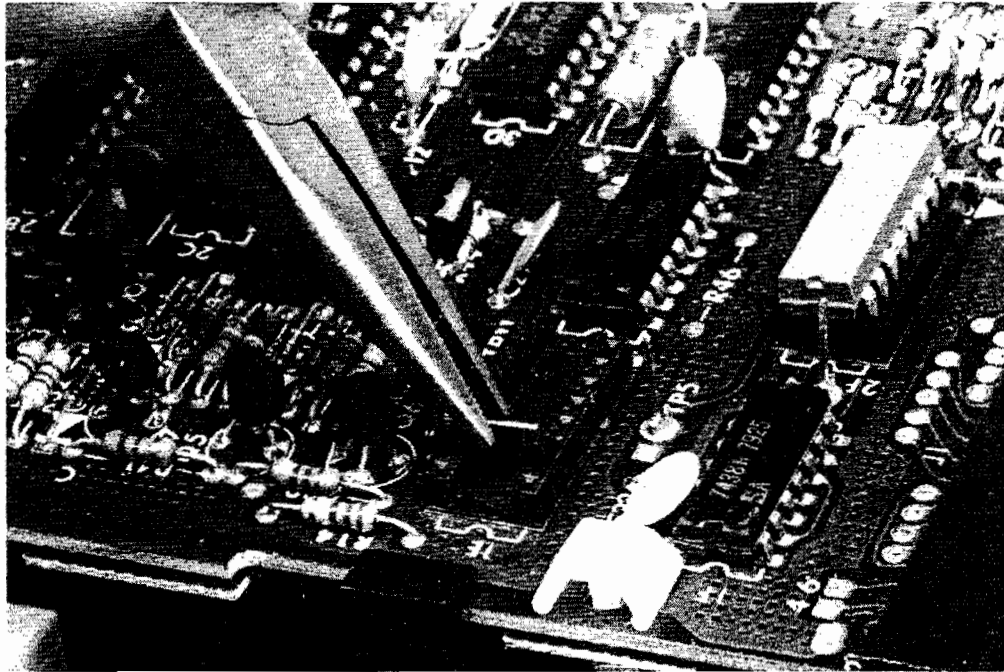

Figure 4-4. Checking Jumpers on the Drive PCA
- b. Check the jumpers on the drive PCA's to be sure they are set properly. (See Figure 4-4.) The jumpers should be placed in the socket as shown by the O's below. (A jumper in position 1 will not affect operation.) Turn off the disc drive before changing the jumpers.